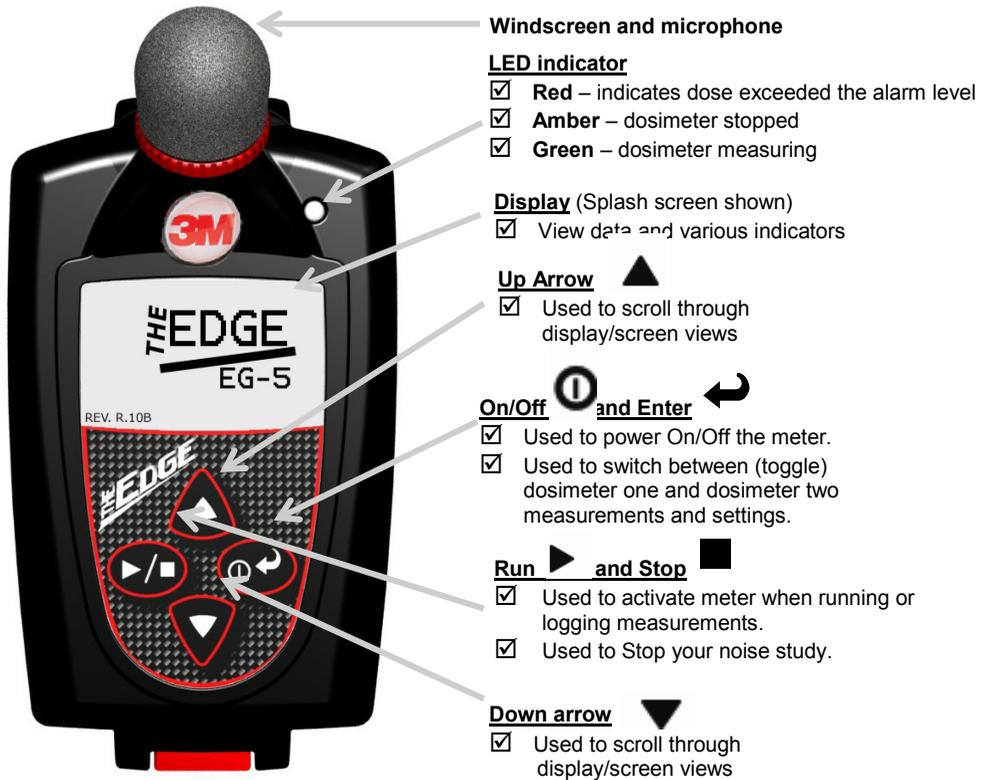

Figure 2-3: Edge Keypad
- ☑ The Edge **splash screen** (see Figure 2-3 for an example, page 10) will appear indicating the model (i.e. “eg5”) and firmware version. The screen will be in the **measurement view**.